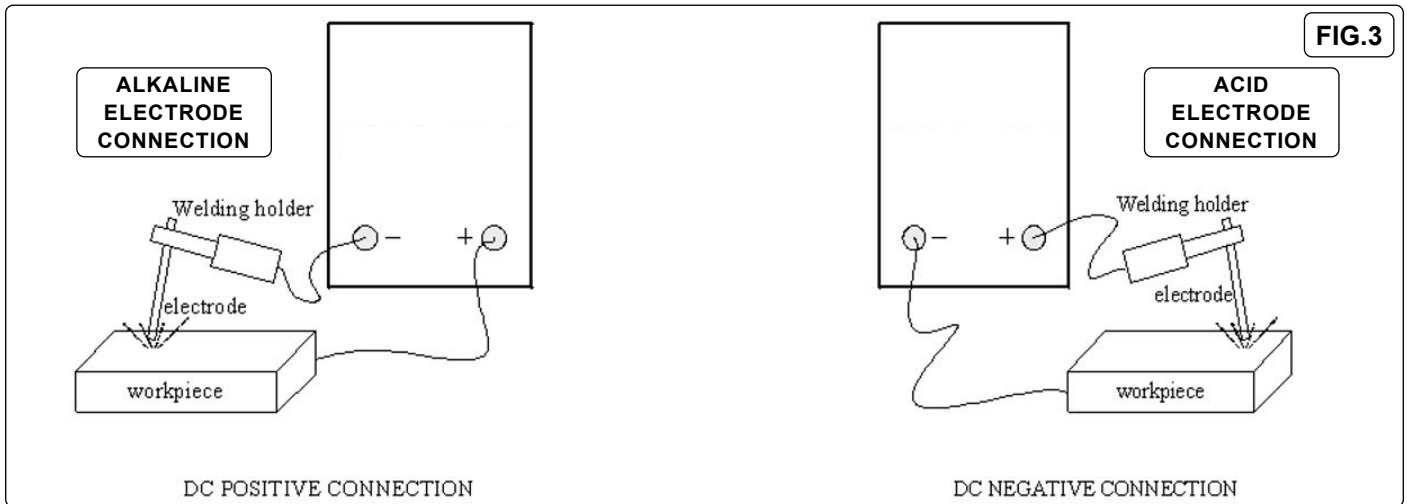

FIG.3
- 4.1.1. Connect the electrode holder and earth clamp correctly (fig.3).
4.2. MMA WELDING - ALKALINE & ACID ELECTRODES (FIG.3)